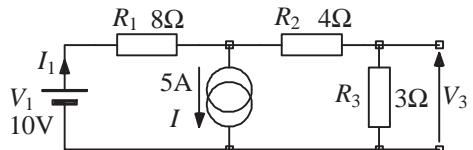

Figure 3
- 3 Analyse figure 3 using loop analysis and superposition and hence evaluate I_1 and V_3 . Calculate the Thevenin equivalent circuit components that will represent figure 3. What value of I would make $V_3 = 0$? (3A, -6V, $V_{TH} = -6V$, $R_{TH} = 2.4\Omega$, 1.25A)